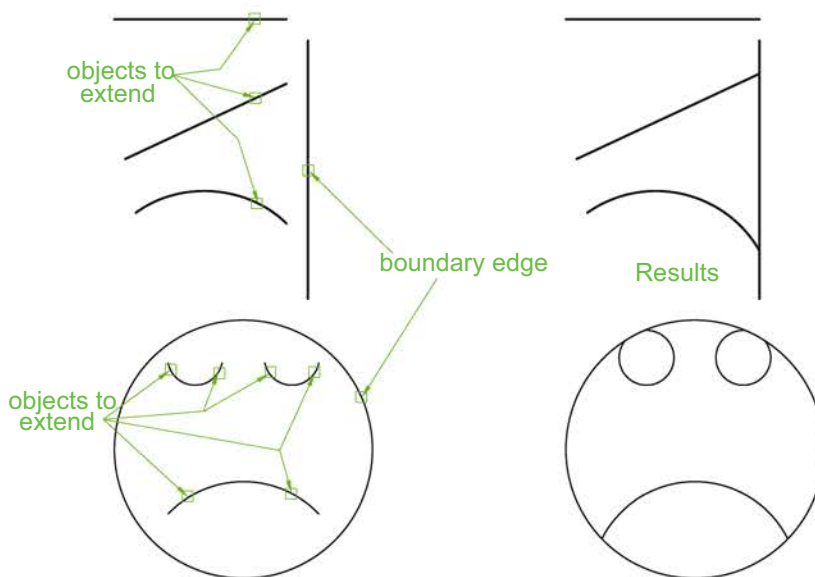

Fig. 6.36 Examples – Extend
EXAMPLES – EXTEND (FIG. 6.36)
1. Construct plines and a circle as shown in the left-hand drawings of Fig. 6.36.
The results are shown in Fig. 6.36.